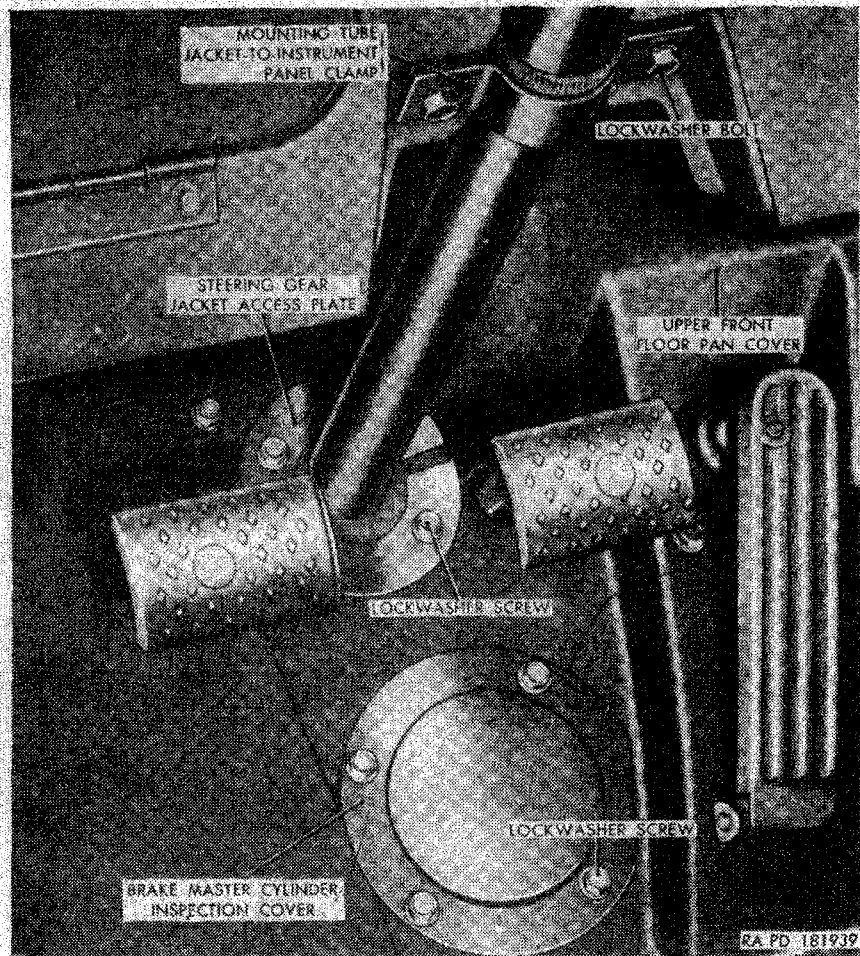

Figure 157. Disconnection points for steering gear removal—driver's compartment.
- (2) Lower the steering gear with Pitman arm assembly into approximate position through the driver's compartment.
- (3) Align the mounting tube jacket-to-instrument panel clamp (fig. 157) and gasket with the holes in the panel. Attach
- (6) Install the brake master cylinder shield (par. 234c(8)).
- (7) Make certain that the underside of the upper front floor pan cover (fig. 157) edges are coated with permagum seal 7348567. Position the cover in the driver's compartment with the cover holes aligned with the body holes. Secure the cover to the body with ten $\frac{1}{4}$ x $\frac{5}{8}$ lockwasher screws.
- (8) Make certain that the underside of the steering gear jacket access plate edges are coated with permagum seal 7348567. Position the plate with the plate holes aligned with the body holes. Secure with two $\frac{1}{4}$ x $\frac{5}{8}$ lockwasher screws.
- (9) Make certain that the underside of the brake master cylinder inspection cover edges are coated with permagum seal 7348567. Position the inspection cover on the upper front floor pan cover and secure with four $\frac{1}{4}$ x $\frac{5}{8}$ lockwasher screws.